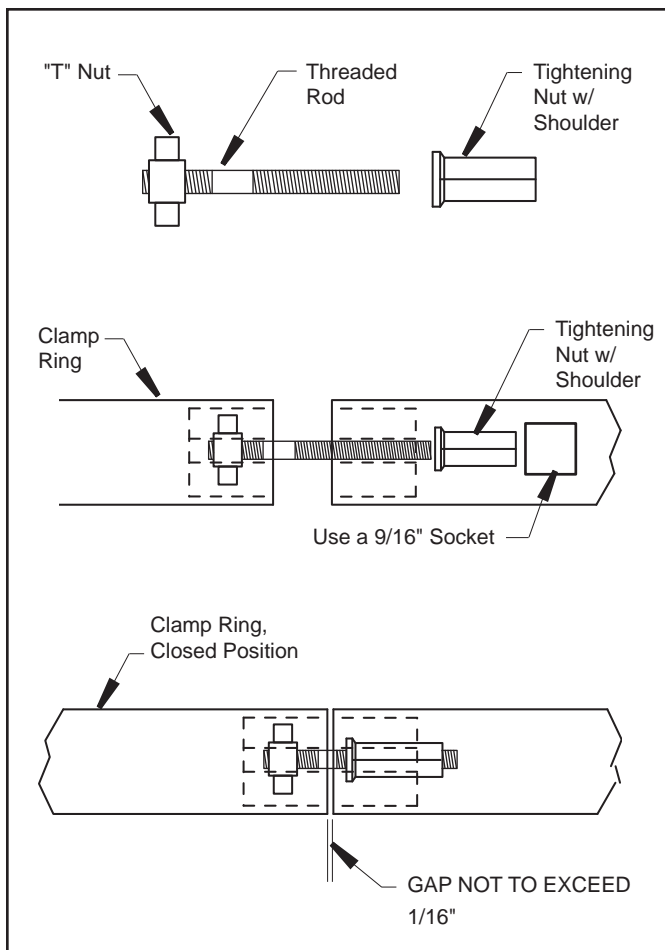

Figure 7. Filter Clamp Ring Assembly
4. Use a 9/16" socket on the tightening nut until the clamp ring halves touch each other, or are within 1/16" (See Fig. 7) **but do not overtighten as the clamp can break.** If unable to tighten as indicated, do not operate the filter and **call a service technician immediately.**